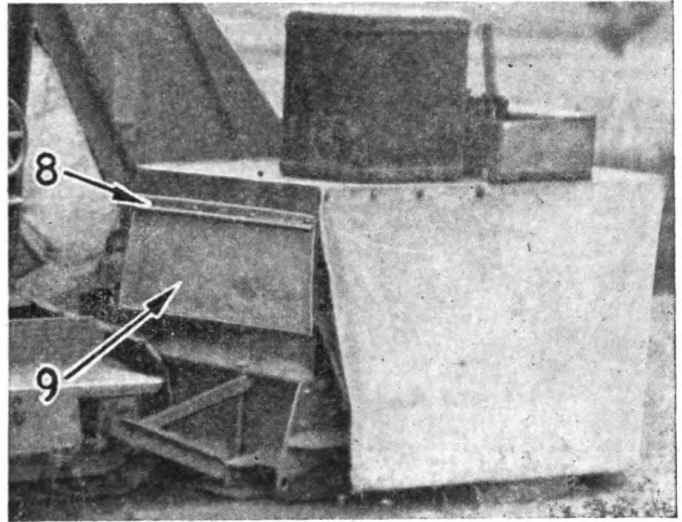

Figure 8B
- thru both angles and the canvas. Do not insert bolts in the three holes (7) in each of the support angles (1) and (2).
5. With the canvas in place and secured by bolts, lay the three boards comprising the board platform (5) in place as shown. Insert carriage bolts from above, extending thru the board, canvas and engaging the proper holes (7) in the support angles. Put nuts on from below and tighten.
6. The two canvas flaps (9), Figure 8B are installed on each side of the boom, attaching to the rear end of the spiral platform, directly above the back side of the scraper. Insert the bolts from the inside, place